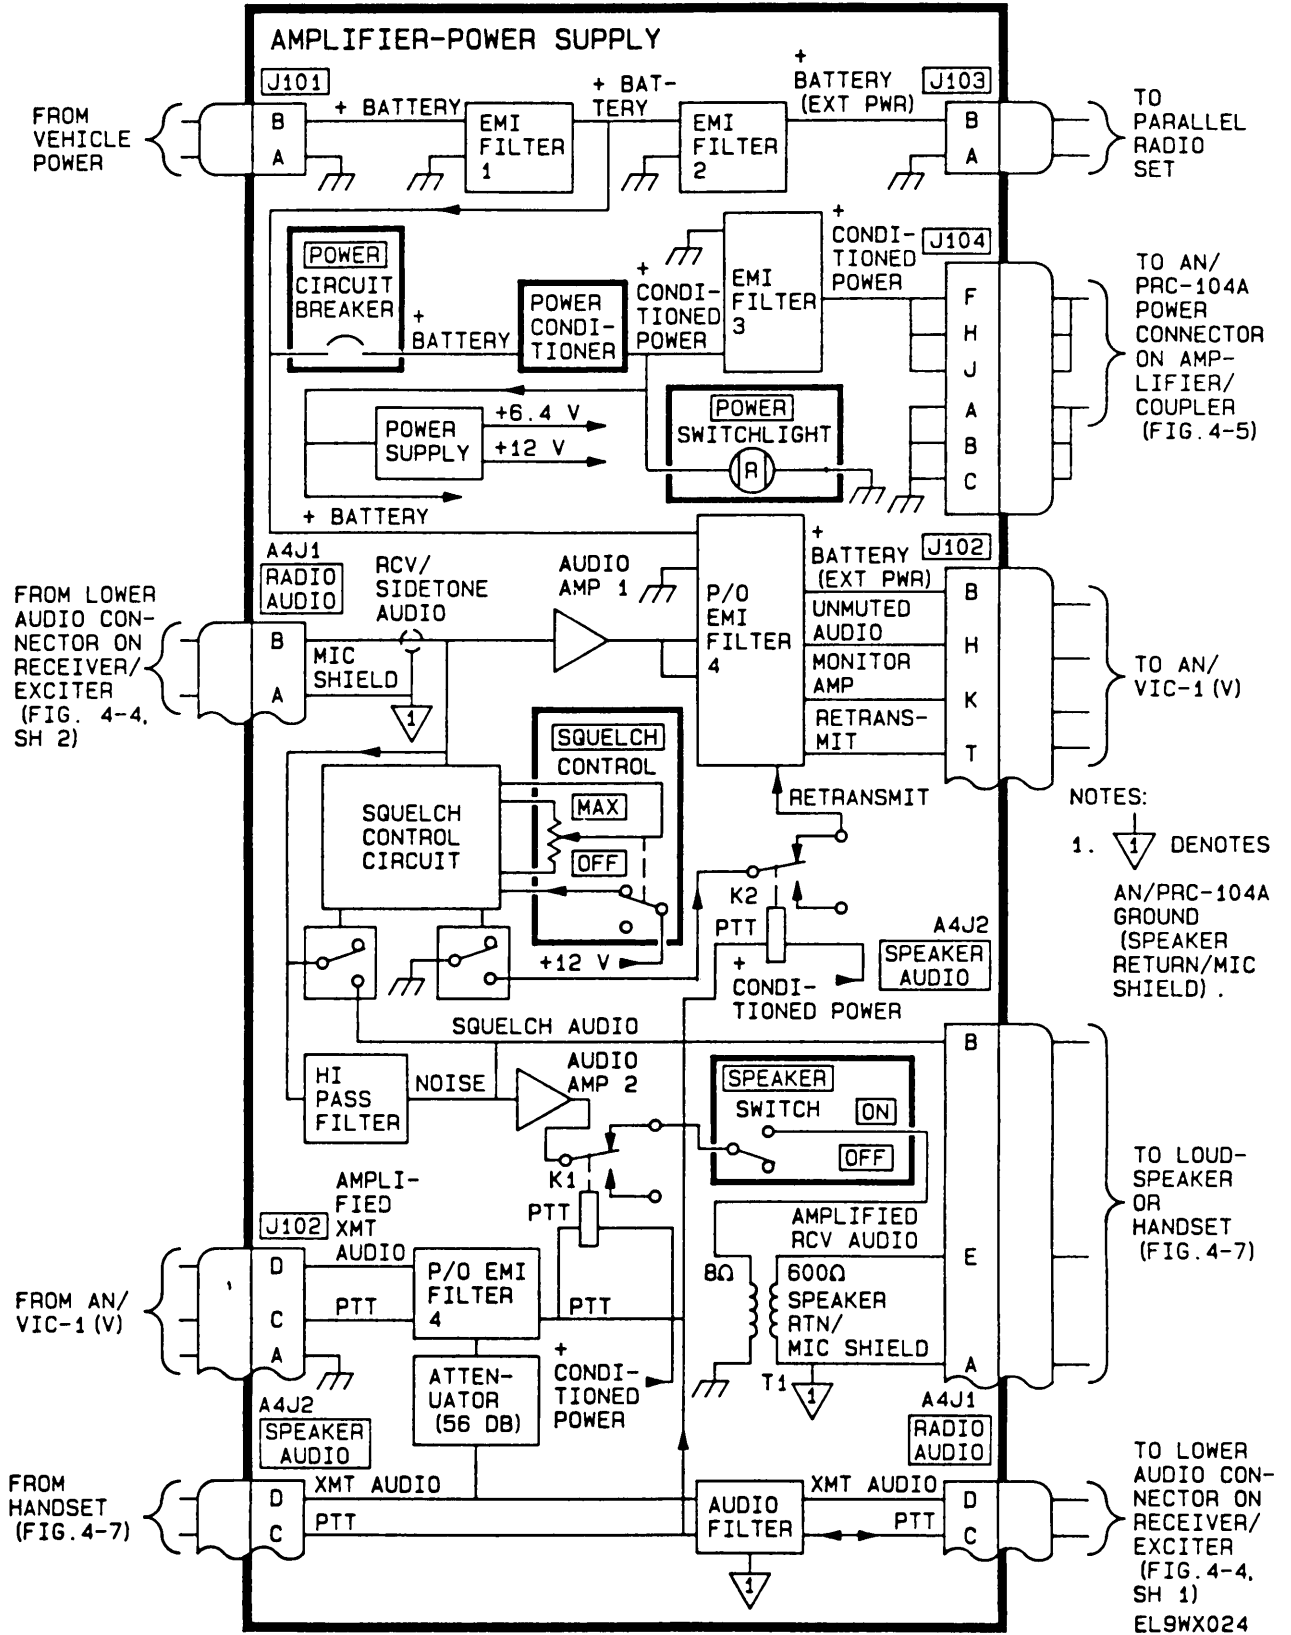

Figure 4-6. Amplifier-Power Supply Functional Schematic
(2) Receive Signals. Received signals are input through the BNC connector to the ANT SEL switch as RCV RF. In normal operation (ANT SEL switch in BNC position), RCV RF passes through the antenna tuner and back through the ANT SEL switch prior to being sent to the receiver/exciter harmonic filter. With the ANT SEL switch in the 50 Ω position (antenna tuner bypassed), RCV RF passes through the ANT SEL switch directly to the receiver/exciter harmonic filter. The harmonic filter removes unwanted noise from RCV RF before it is returned to the amplifier/coupler (pin 16). RCV RF is then routed through the amplifier coupler and output to the receiver/exciter modulator/demodulator.
(3) Keyline Signals. KEYLINE and PA KEYLINE (power amplifier keyline) signals are input from the receiver/exciter. These signals determine if the amplifier/coupler operates in the receive or transmit mode. The amplifier/coupler is in the receive mode when the keyline signals are floating. When a low (ground) is input on KEY LINE and PA KEY LINE, relays K2, K3, and circuitry in the antenna tuner are energized placing the amplifier/coupler in the transmit mode.
(4) Tuning Signals. When a TUNE START signal is input from the receiver/exciter, the power amplifier produces a +16 V REGULATED signal. The +16 V signal is sent to the antenna tuner to remove all inductors and capacitors from the rf pathway (L-C network reset to zero). The antenna tuner then can use the six frequency select signals input from the receiver/exciter (1 MHz 1, 2, 4, 8 and 10 MHz 1, 2) to match the impedance (adjust the L-C network) of the antenna at the operating frequency. A TUNE IN PROGRESS signal is output by the antenna tuner while impedance matching (L-C) adjustments are made. If the antenna tuner fails to match impedance with the antenna used, it will perform a retune. When the tuning cycle takes too long (over 12 seconds), the antenna tuner will output a TUNE FAULT signal. This means that either the selected antenna is not within the tuning range of the antenna tuner, or the antenna tuner module is faulty. A TUNE FAULT signal is output immediately if the frequency of operation chosen is below 2 MHz. The modulator/demodulator in the receiver/exciter produces audible indicators for the user for TUNE START, TUNE IN PROGRESS, and TUNE FAULT signals.
(5) Antenna Ground. The GND terminal on the face of the amplifier/coupler serves as a counterpoise or earth ground for some antennas used in the manpack configuration (TM 11-5820-919-12). This terminal is not normally used in vehicular operation of the AN/GRC-213.
c. *Amplifier/Power Supply.* (See fig. 4-6.) Amplifier-power supply signal routing and conditioning are illustrated in figure 4-6. A discussion of the signals is contained in the following paragraphs.